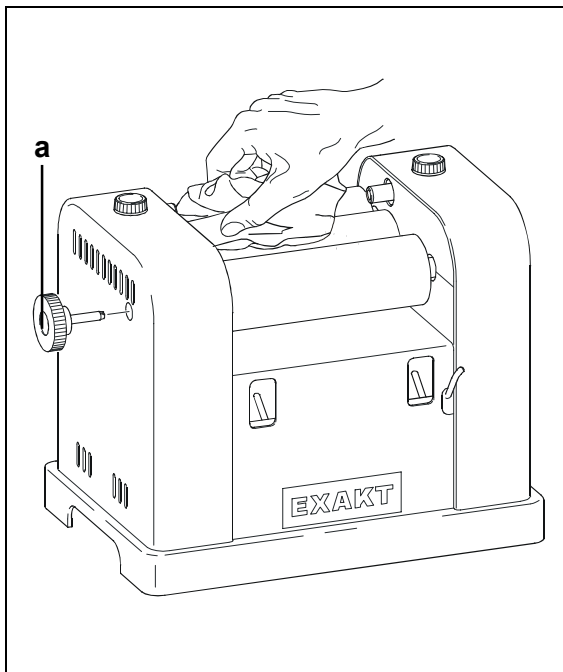

Fig. 17: Cleaning the rollers
- Attach the hand-wheel to the unit (Fig. 17/a) for manual roller rotation.
- Remove the hand-wheel (Fig. 17/a) after cleaning.